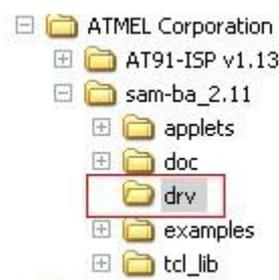

Figure 4-2
(1) Board (J17) will be connected to PC by micro USB cable and power on by USB.
(2)Turn SW1 1, 2 OFF, and disconnect jumper JP8, then restart board (the order is not reversed). Firstly, connect to board, it will be prompted to install board driver. Then select SAM-BA installation directory which can be installed as shown in figure 4-2: